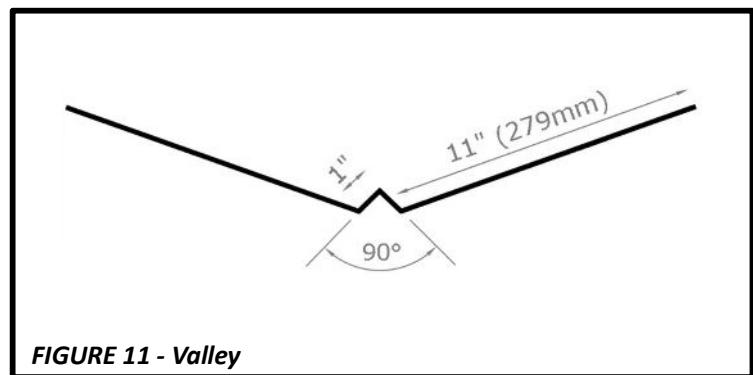

FIGURE 11 - Valley
- **VALLEY METAL** - Consult local building codes for width of metal valley and for allowed materials. The width should be a minimum of **12" (305mm)** on each side. FWAVE recommends the use of a W-style valley metal. See **Figure 11**. Install the metal valley on top of the underlayment and fasten **1" (25mm)** from the edges of the valley. When overlapping metal valley pieces, ensure a minimum overlap of **4" (102mm)** and seal together with FWAVE approved sealant and adhesive (see **Table 1**). Do not apply fasteners at the overlaps except on the edges.